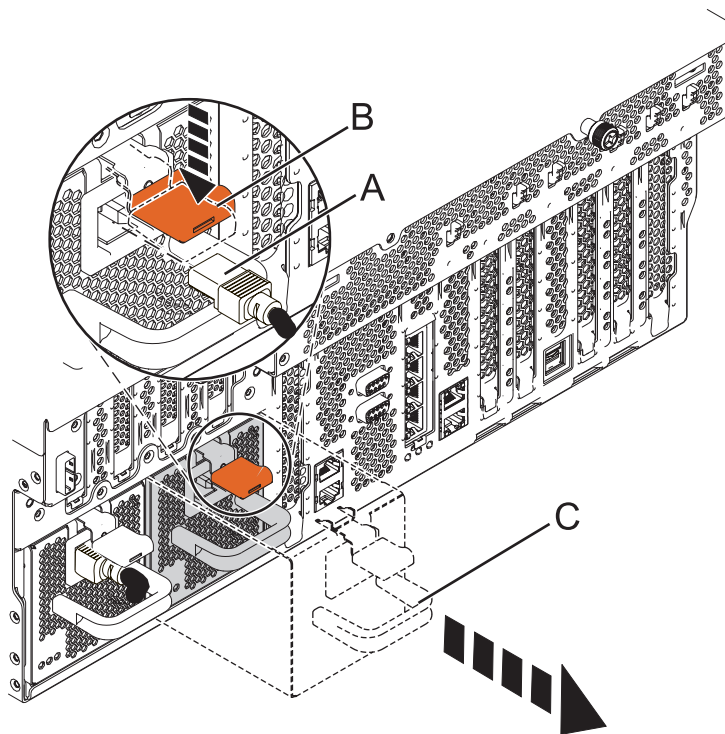

Figure 3. Removing the power supply from a rack-mounted model
6. Disconnect the power cable (A) from the front of the power supply as shown in Figure 3.